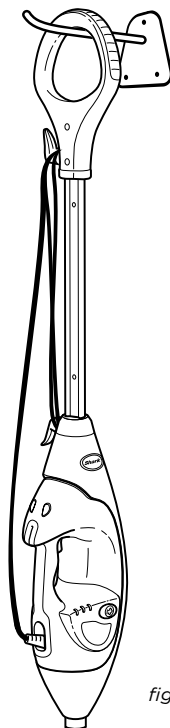

fig. 24
- 5 To store the **Shark® Lift-Away™ Pro Steam Pocket® Mop** hanging up, first remove the head (after it has cooled and the steam has been released) then hang on a large hook. (**fig. 24**)